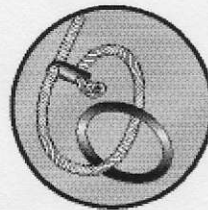

fig.2
- Thread the end of the rope through the remaining hole in the slider and tie a knot to secure. To work properly, the rope must enter slider from the same side each time- as illustrated. Repeat with remaining guy ropes, rings and sliders. See fig.2.